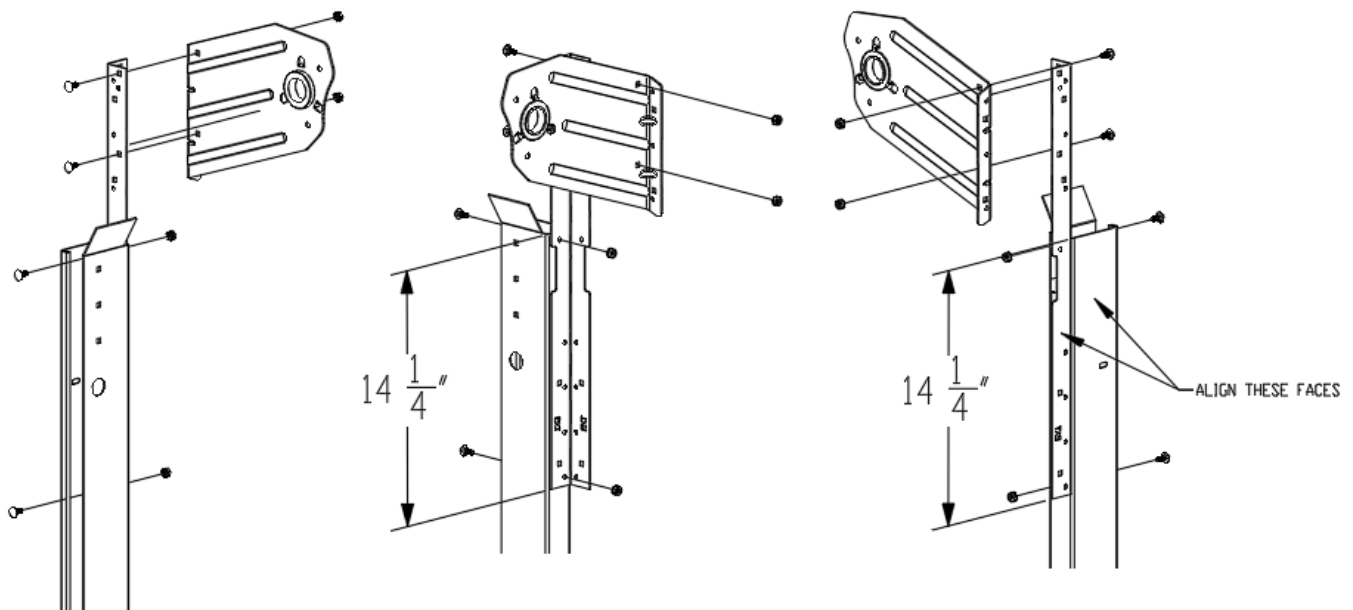

figure 5: Bolt-On Bracket
- ✦ Attach angle to guide using two (2) each 1/4-20 x 5/8" carriage bolts and 1/4-20 keps nuts. **See Figure 5.**
- ✦ Attach bracket to guide using two (2) each 1/4-20 x 5/8" carriage bolts and 1/4-20 keps nuts. **See Figure 5.**